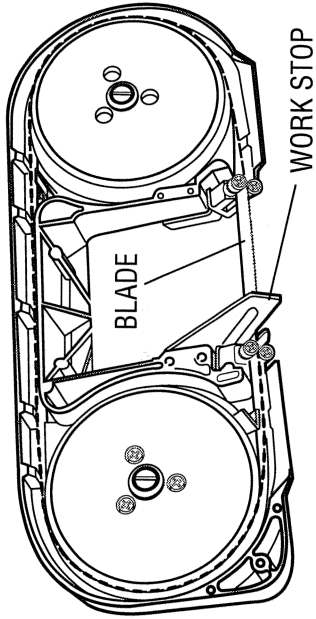

Figure 7
- B. Slip the blade into the blade guides, as shown in Figure 7.